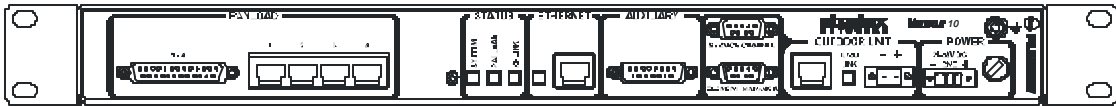

Figure 8-9. Velox LE 10 DIU
- Velox LE 10 (scaleable up to 4 T1/E1) (see Figure 8-9 below).